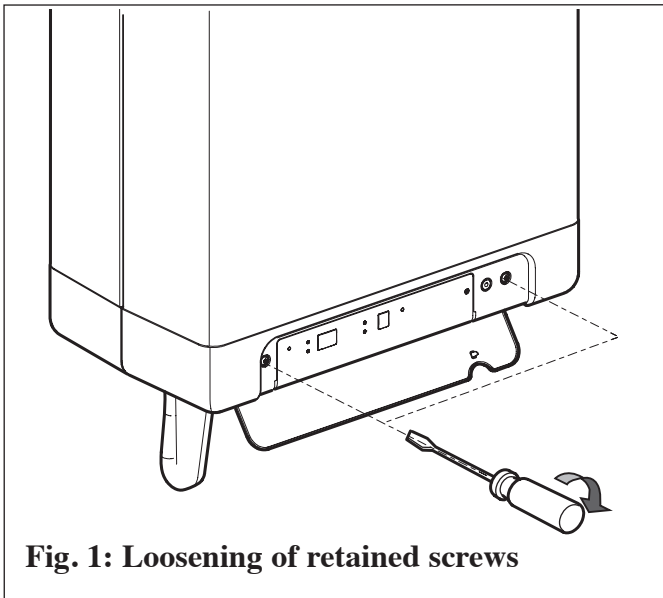

Fig. 1: Loosening of retained screws
- Swing the bottom of the front jacket against the side panel and secure in place by tightening the retaining screws (Fig. 1).